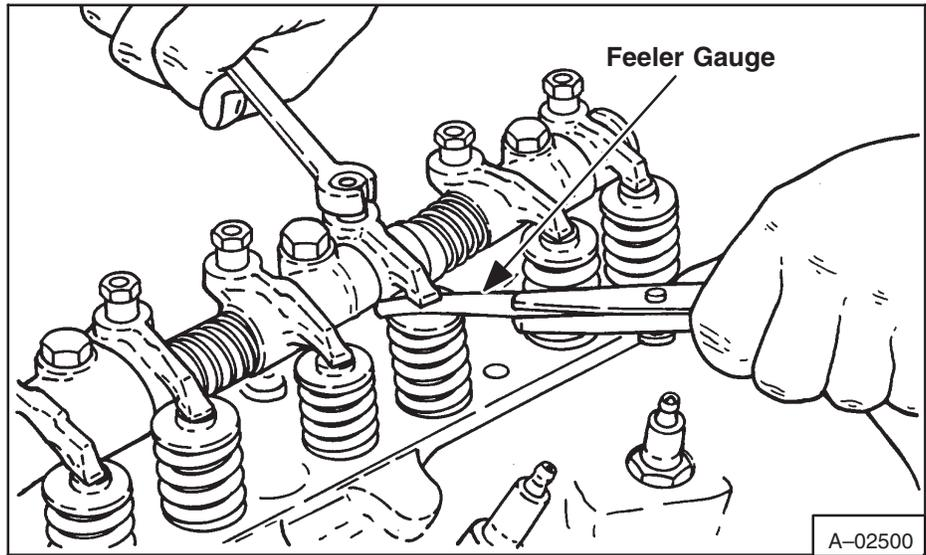

Fig. 7B-1 Adjusting Rocker Arms
### 7B-2.2 Valve Clearance (Fig. 7B-1)
8. Make a comparison of the highest and the lowest compression readings. If the lowest is at least 75% of the highest compression pressures are normal (Fig. 7B-2).